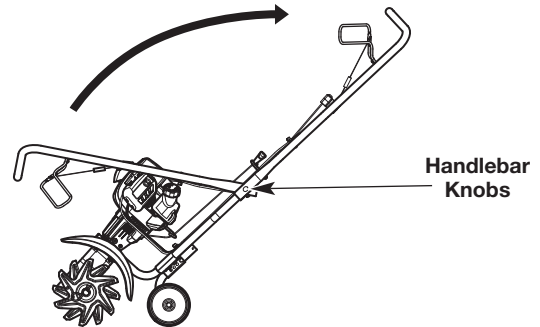

Fig. 2
2. With the unit upright, swing the handlebars up into the operating position (Fig. 2).